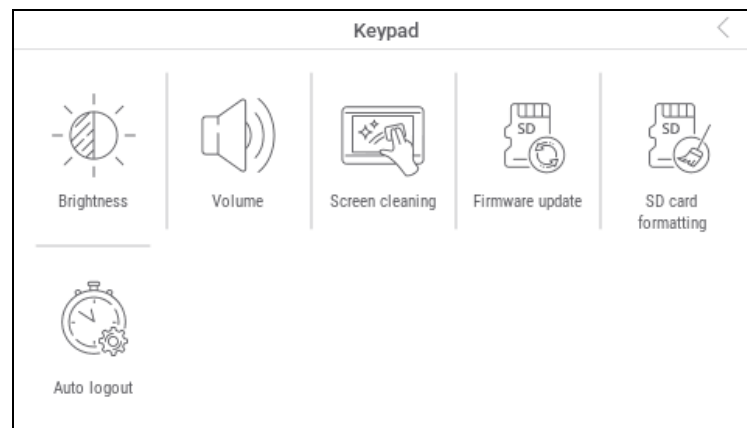

Fig. 38. "Keypad" screen.
6. Tap the "Keypad" function. The "Keypad" screen will be displayed (Fig. 38).
3. Tap the "Keypad" function. The "Keypad" screen will be displayed (Fig. 38).
3. Tap the “Keypad” function. The “Keypad” screen will be displayed (Fig. 38).